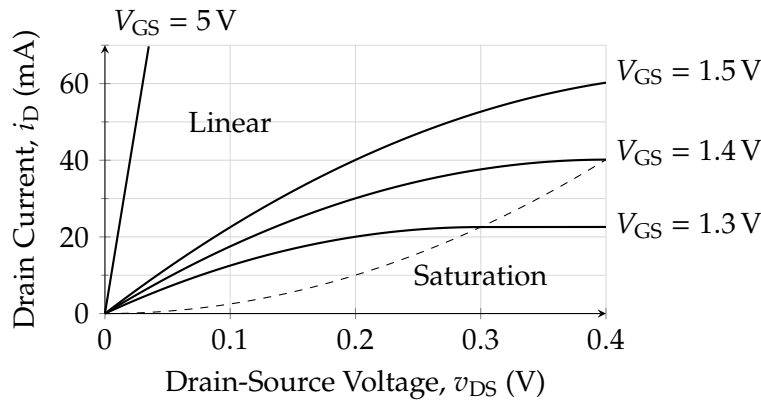

Figure 2.1: Linear region of operation for an n-channel enhancement mode MOSFET with $k_n = 0.5 \text{ A V}^{-2}$ and $V_{th} = 1 \text{ V}$.
The I–V characteristics of Figure 2.1 shows the linear region of operation for MOSFETs; Within this region, MOSFETs act almost like resistors in which the current i_D is proportional to the voltage v_{DS} across the MOSFETs, as shown in equation (2.1). This resistance is called the on-resistance $R_{DS(on)}$. The effective resistance of the device is controlled by the v_{GS} applied to the transistor.
$R_{DS(on)}$ for a specific v_{GS} may be estimated from the MOSFETs output characteristics using equation (2.2). For example, in figure 2.1, $R_{DS(on)}$ may be estimated for $v_{GS} = 1.5 \text{ V}$ over the v_{DS} range of 0 V to 0.2 V by the simple ratio of $0.2 \text{ V}/40 \text{ mA} \approx 5 \Omega$. This means that the transistor can be modelled as a 5Ω resistor between the drain and source when the current is below 40 mA and $v_{GS} = 1.5 \text{ V}$. As v_{GS} increases, the slope of the
i_D versus v_{DS} curve continues to increase, so the effective $R_{DS(on)}$ of the device decreases. If we look at the curve for $v_{GS} = 5\text{ V}$ in figure 2.1, we can estimate the on resistance as $0.03\text{ V}/60\text{ mA} \approx 0.5\ \Omega$.
1. Estimate $R_{DS(on)}$ for the transistor with output characteristics given in figure 2.1 when $i_D = 30\text{ mA}$ and $v_{GS} = 1.4\text{ V}$.
2. Which value of v_{GS} in figure 2.1 has the lowest $R_{DS(on)}$ for all currents?